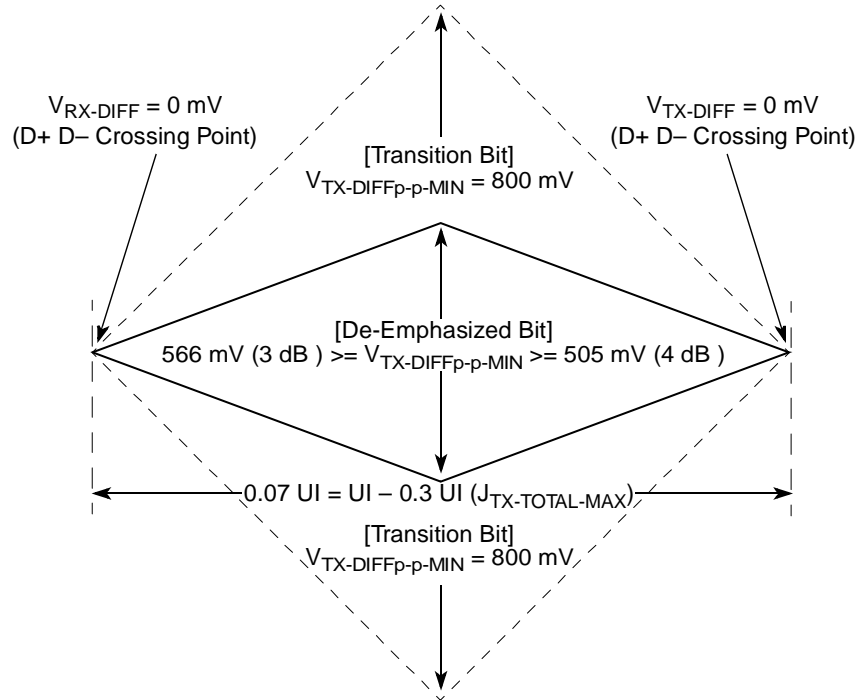
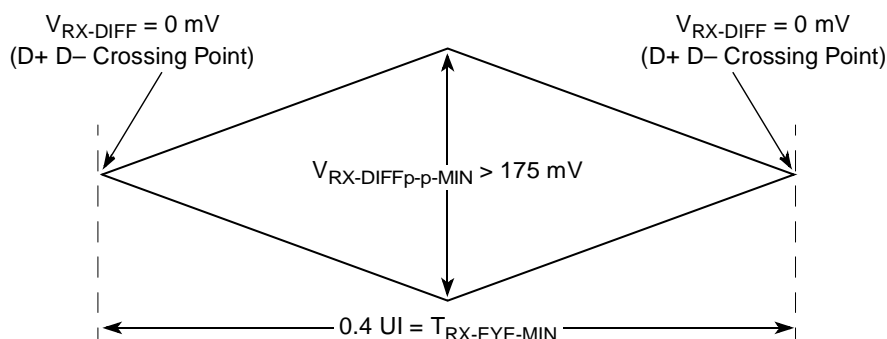
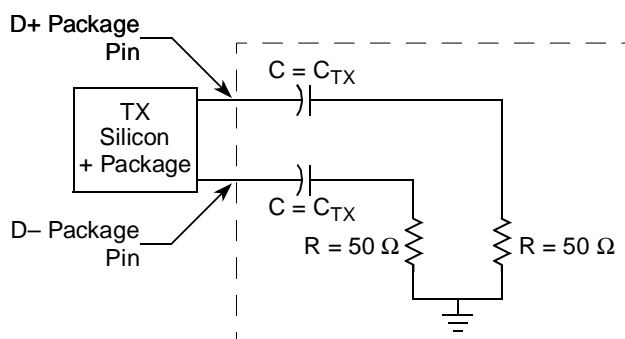

Figure 52. Minimum Transmitter Timing and Voltage Output Compliance Specifications
Figure 53. Minimum Receiver Eye Timing and Voltage Compliance Specification
Figure 54. Compliance Test/Measurement Load
2. Specified at the measurement point into a timing and voltage compliance test load as shown in Figure 54 and measured over any 250 consecutive TX UIs. (Also refer to the transmitter compliance eye diagram shown in Figure 52.)
4. The transmitter input impedance shall result in a differential return loss greater than or equal to 12 dB and a common mode return loss greater than or equal to 6 dB over a frequency range of 50 MHz to 1.25 GHz. This input impedance requirement applies to all valid input levels. The reference impedance for return loss measurements is 50 Ω to ground for both the D+ and D– line (that is, as measured by a vector network analyzer with 50- Ω probes—see Figure 54.) Note that the series capacitors C_{TX} is optional for the return loss measurement.
5. Measured between 20%–80% at transmitter package pins into a test load as shown in Figure 54 for both $V_{\text{TX-D+}}$ and $V_{\text{TX-D-}}$.
The TX eye diagram in Figure 52 is specified using the passive compliance/test measurement load (see Figure 54) in place of any real PCI Express interconnect +RX component.
2. Specified at the measurement point and measured over any 250 consecutive UIs. The test load in Figure 54 should be used as the RX device when taking measurements (also refer to the receiver compliance eye diagram shown in Figure 53). If the clocks to the RX and TX are not derived from the same reference clock, the TX UI recovered from 3500 consecutive UI must be used as a reference for the eye diagram.
4. The receiver input impedance shall result in a differential return loss greater than or equal to 15 dB with the D+ line biased to 300 mV and the D– line biased to –300 mV and a common mode return loss greater than or equal to 6 dB (no bias required) over a frequency range of 50 MHz to 1.25 GHz. This input impedance requirement applies to all valid input levels. The reference impedance for return loss measurements for is 50 Ω to ground for both the D+ and D– line (that is, as measured by a vector network analyzer with 50- Ω probes, see Figure 54). Note that the series capacitors C_{TX} is optional for the return loss measurement.
The RX eye diagram in Figure 53 is specified using the passive compliance/test measurement load (see Figure 54) in place of any real PCI Express RX component.
In general, the minimum receiver eye diagram measured with the compliance/test measurement load (see Figure 54) will be larger than the minimum receiver eye diagram measured over a range of systems at the input receiver of any real PCI Express component. The degraded eye diagram at the input receiver is due to traces internal to the package as well as silicon parasitic characteristics which cause the real PCI Express component to vary in impedance from the compliance/test measurement load. The input receiver eye diagram is implementation specific and is not specified. RX component designer should provide additional margin to adequately compensate for the degraded minimum receiver eye diagram (shown in Figure 53) expected at the input receiver based on some adequate combination of system simulations and the return loss measured looking into the RX package and silicon. The RX eye diagram must be aligned in time using the jitter median to locate the center of the eye diagram.
The reference impedance for return loss measurements is $50\ \Omega$ to ground for both the D+ and D- line (that is, as measured by a vector network analyzer with $50\text{-}\Omega$ probes, see Figure 53). Note that the series capacitors, CTX, are optional for the return loss measurement.
The AC timing and voltage parameters must be verified at the measurement point, as specified within 0.2 inches of the package pins, into a test/measurement load shown in Figure 54.